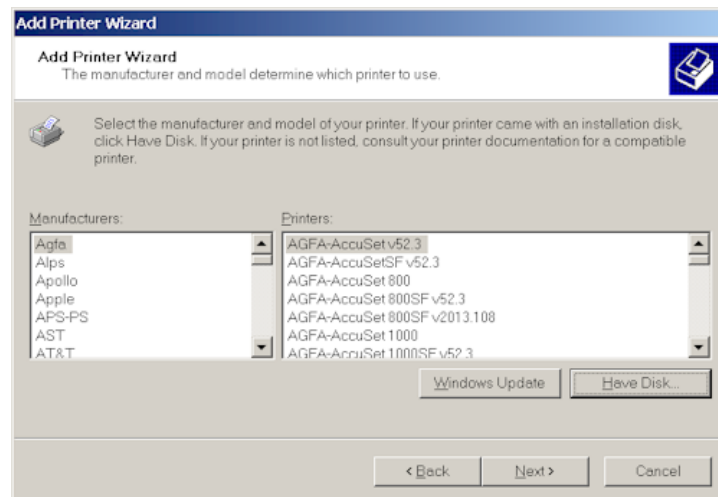

Figure 10, Printer Manufacturer
- The fourth page of the “**ADD PRINTER WIZARD**” will be displayed as shown in Figure 10. Click on **<HAVE DISK>**. This will bring up the “**INSTALL FROM DISK**” splash screen.